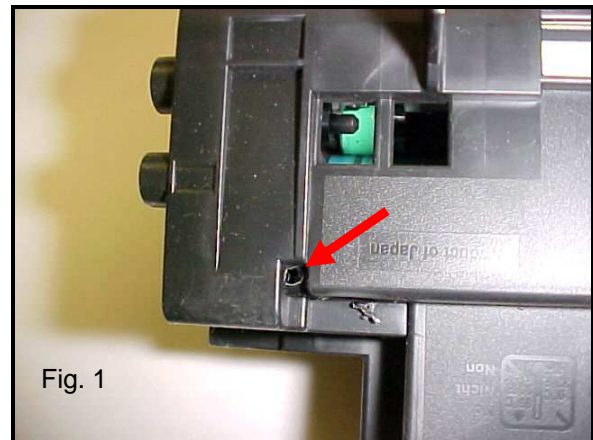

Fig. 1
1. Use a 3/32-inch drill bit and carefully drill a small hole into the plastic HP 2420 housing where the cartridge pin is located (Fig. 1).